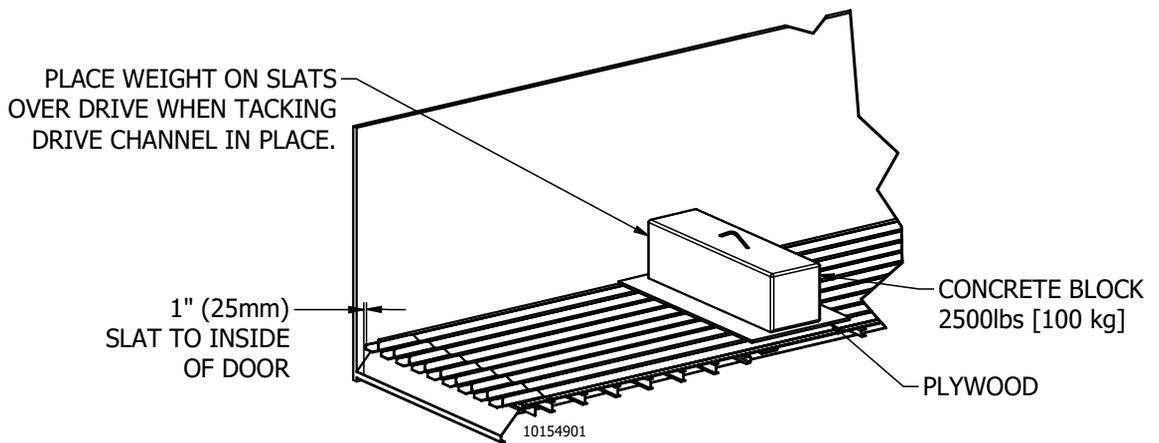

Figure 38
2. Place a weight of approximately 2500 lbs. (1100 kg.) on top of the drive area evenly spaced over the floor slats to hold the slats down tight to the sub-deck when the drive channel is tack welded in place (Figure 38).